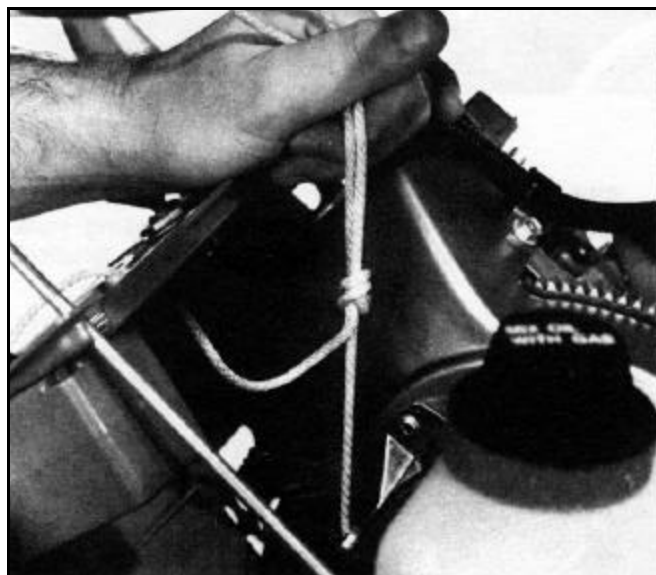

Figure 34
4. Pull the rope from the starter and tie a small knot in the starter rope before the starter housing (Figure 34). Allow the starter rope to retract until the knot stops the starter rope at the starter housing. Next, remove the knot in the starter handle and slide the handle off the starter rope.